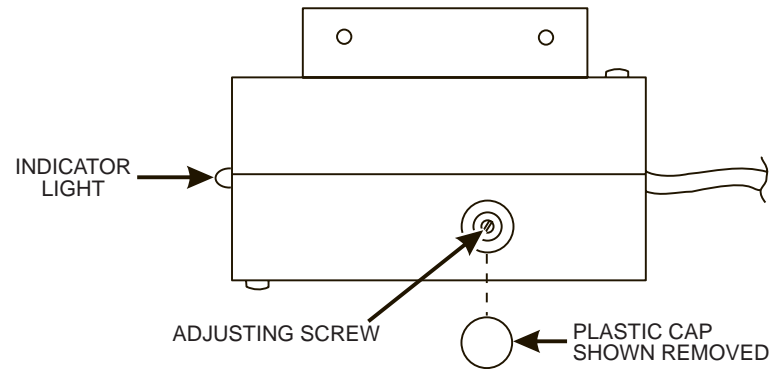

Figure B1
1. Remove the plastic cap in the rear of the sensing unit, exposing the potentiometer adjusting screw, as shown in figure B1.